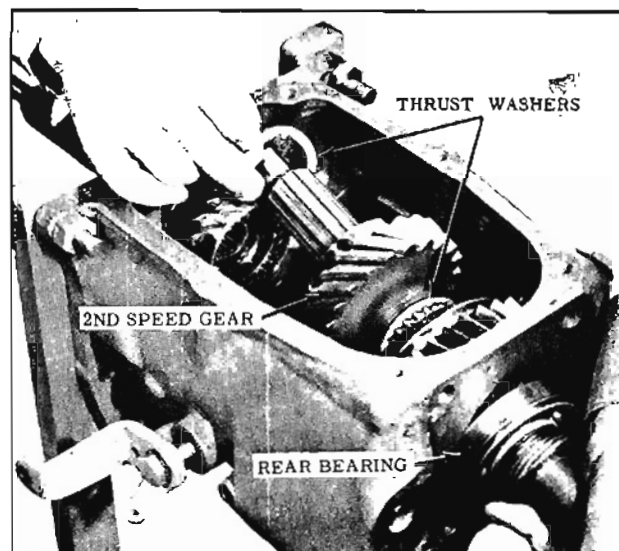

Fig. 7-11 Removing Second Speed Gear
8. Remove the keyed thrust washer, the second speed gear, and the rear thrust washer from the main shaft. (Fig. 7-11)